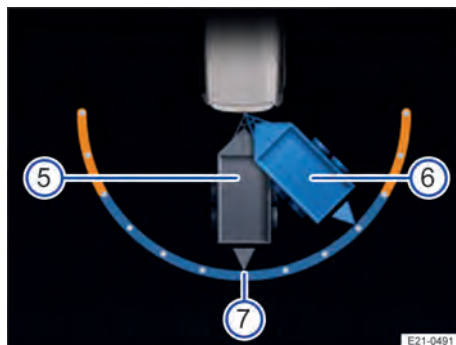

Fig. 120 On the instrument cluster display: adjusting the direction of travel of the trailer.
A diagram showing the current position of the trailer appears on the instrument cluster display for orientation purposes → Fig. 120 ⑤.
5. Use the rotary knob to correct the angle to the left ② or right ③ if necessary.